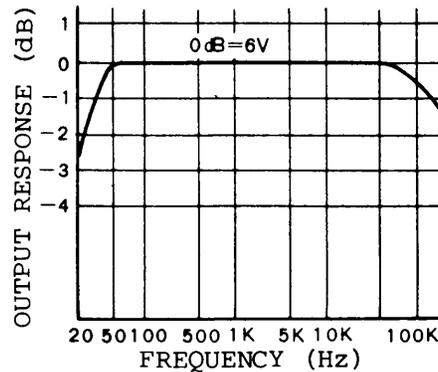

Fig. 5. Frequency characteristic.
- a. Set model 3050 output voltage of 1V at 1kHz and apply the output of model 3050 to the amplifier under test. This will provide an output voltage of 6V as shown in Fig. 5.
- d. Figure 5 shows an example of the output versus frequency characteristic of an amplifier obtained as mentioned above.